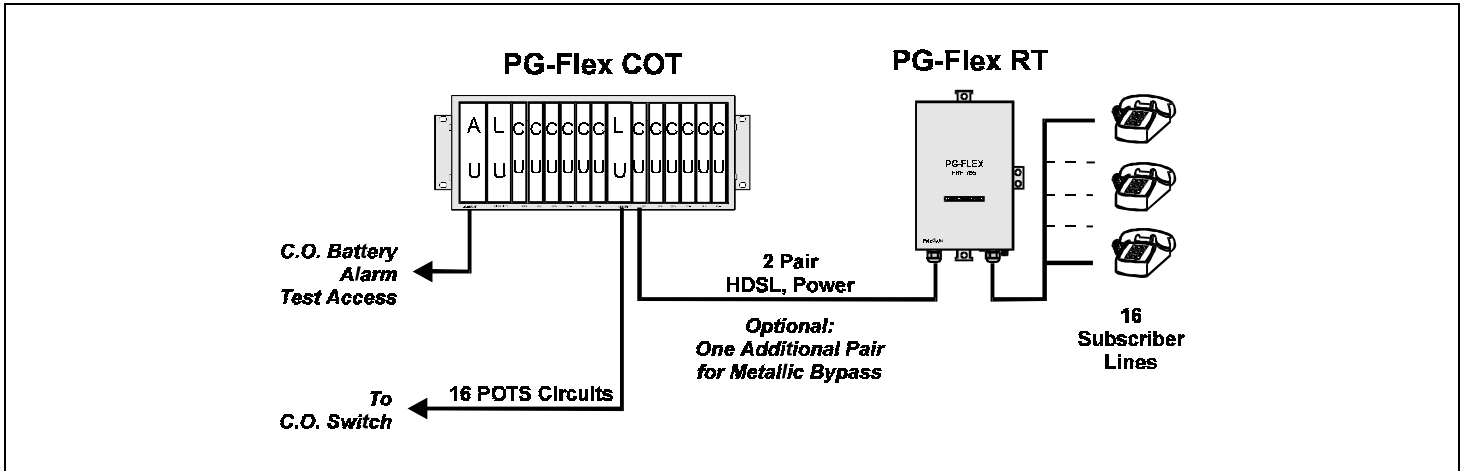

Figure 2 Typical PG-Flex Configuration.
2.02 System Flex Configuration. A PG-Flex system, shown in Figure 2 consists of:
- Remote Terminal (RT). The RT Enclosure provides a weatherproof housing for the PG-Flex remote electronics and subscriber terminations. The enclosure accepts one common RT Line Unit and up to four Channel Units. The Remote Terminal communicates with, and is line-powered from, the COT over two pairs of 19- to 26-gauge (0.9 mm to 0.4 mm) twisted-pair telephone wire. Each pair carries both power and HDSL signaling.
2.05 For the system configuration depicted in Figure 2, the maximum distance between the COT and the RT is 10.7 kft (3.3 km), assuming the HDSL lines are 24 gauge (0.5 mm). Table 1 shows the maximum distance between the COT and RT for various gauge wire. Due to the nature of HDSL transmission technology, the HDSL lines do not require any special conditioning and may include unterminated bridge taps, but cannot include load coils.